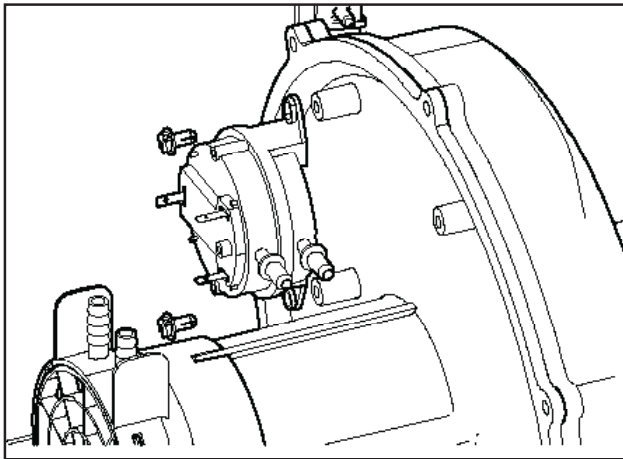

Figure 2. Remove Air Pressure Switch
10. Using a 7/16" wrench, remove four (4) nuts with flat washers and star washers to disconnect the blower.
11. Remove two (2) screws to disconnect the air pressure switch from the blower (Figure 2).